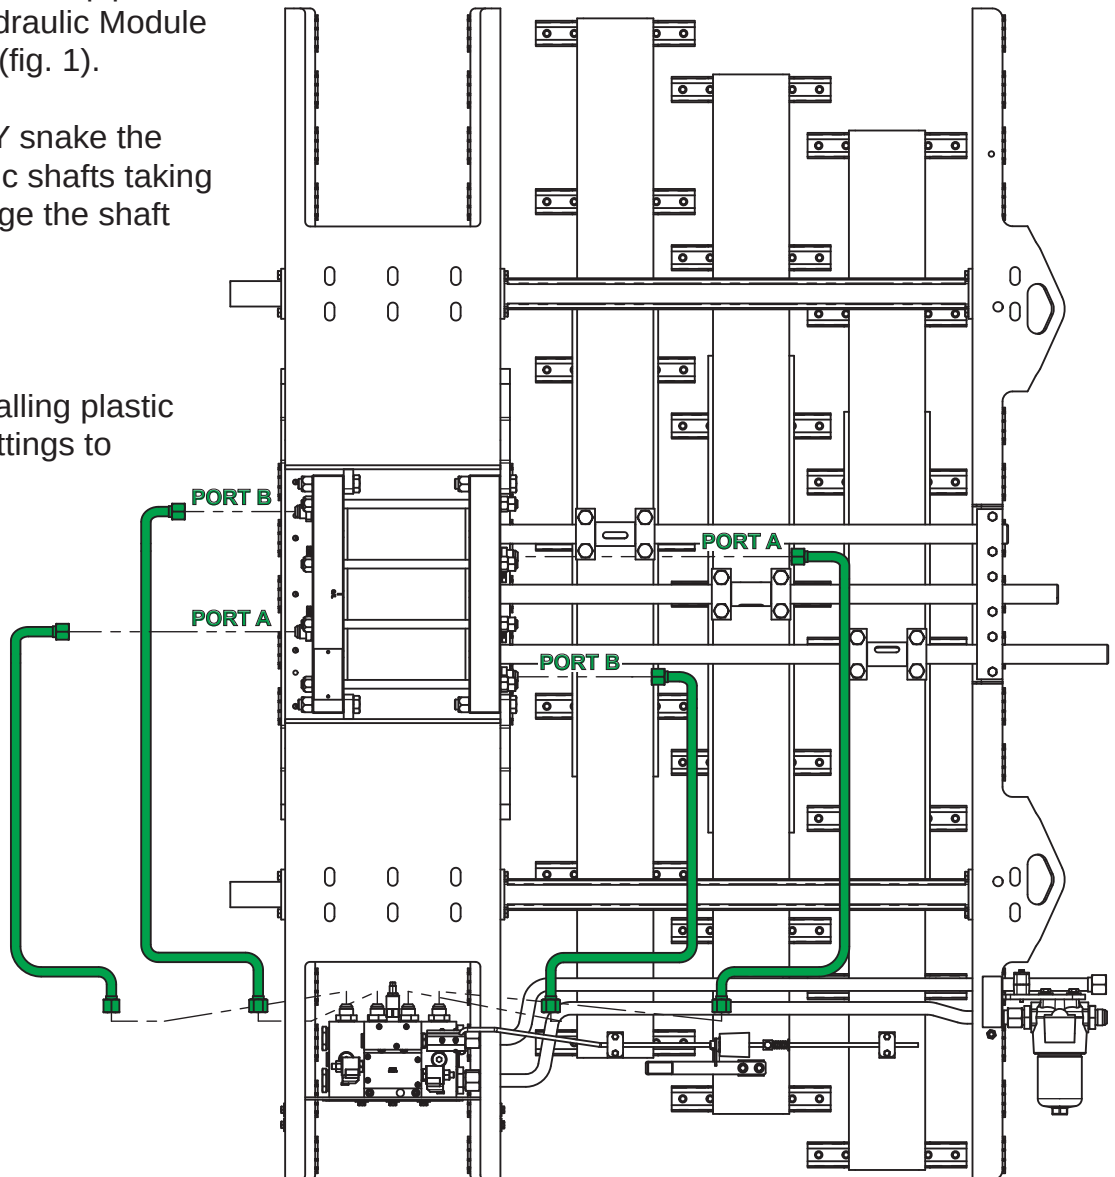

Figure 1
Remove the four (4) hydraulic pipes that run between the Hydraulic Module and the Switching valve (fig. 1).